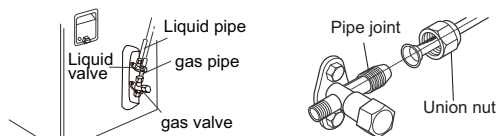

Fig. 22
- (2) Remove the screw cap of valve and aim the pipe joint at the bellmouth of pipe. (As show in Fig. 22)